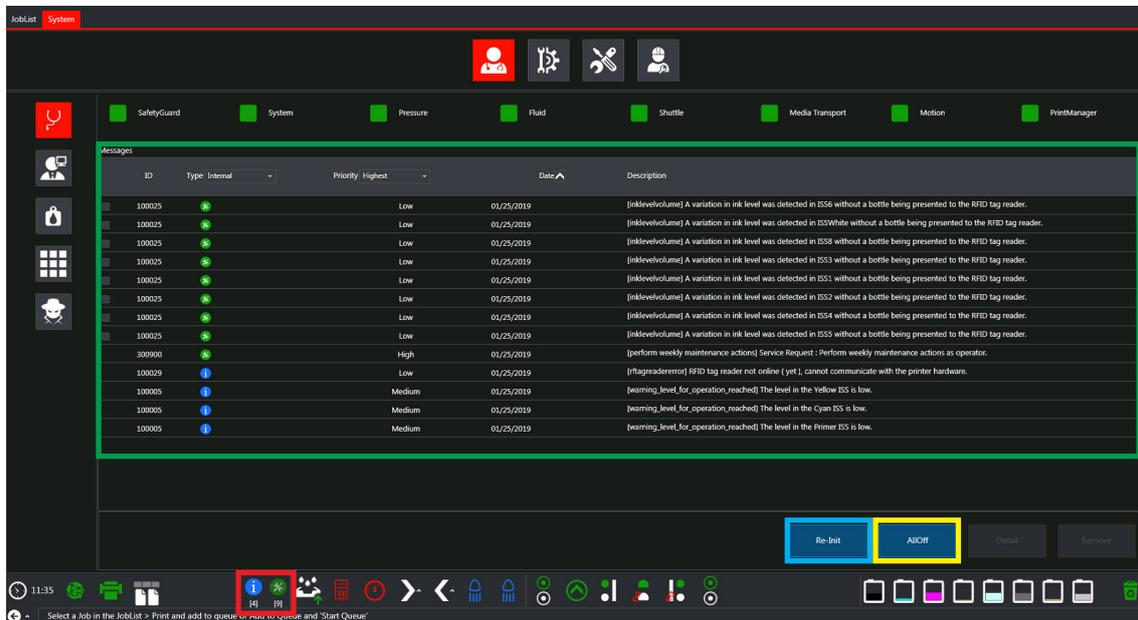

Fig.6-4: Machine Status Overview
The Machine posts messages for the user in the message overview window (outlined in green in Fig.6-4).
An icon in the bottom status bar informs the user about new messages (outlined in red in Fig.6-4). Each message is a line containing a check box, a message type icon, priority information, date of the event, ID of the message and a text description.
- The Re-init command button (outlined in blue in Fig.6-4) initializes all the Jeti Tauro H3300 - LED modules. Use this command to clear all engine messages.